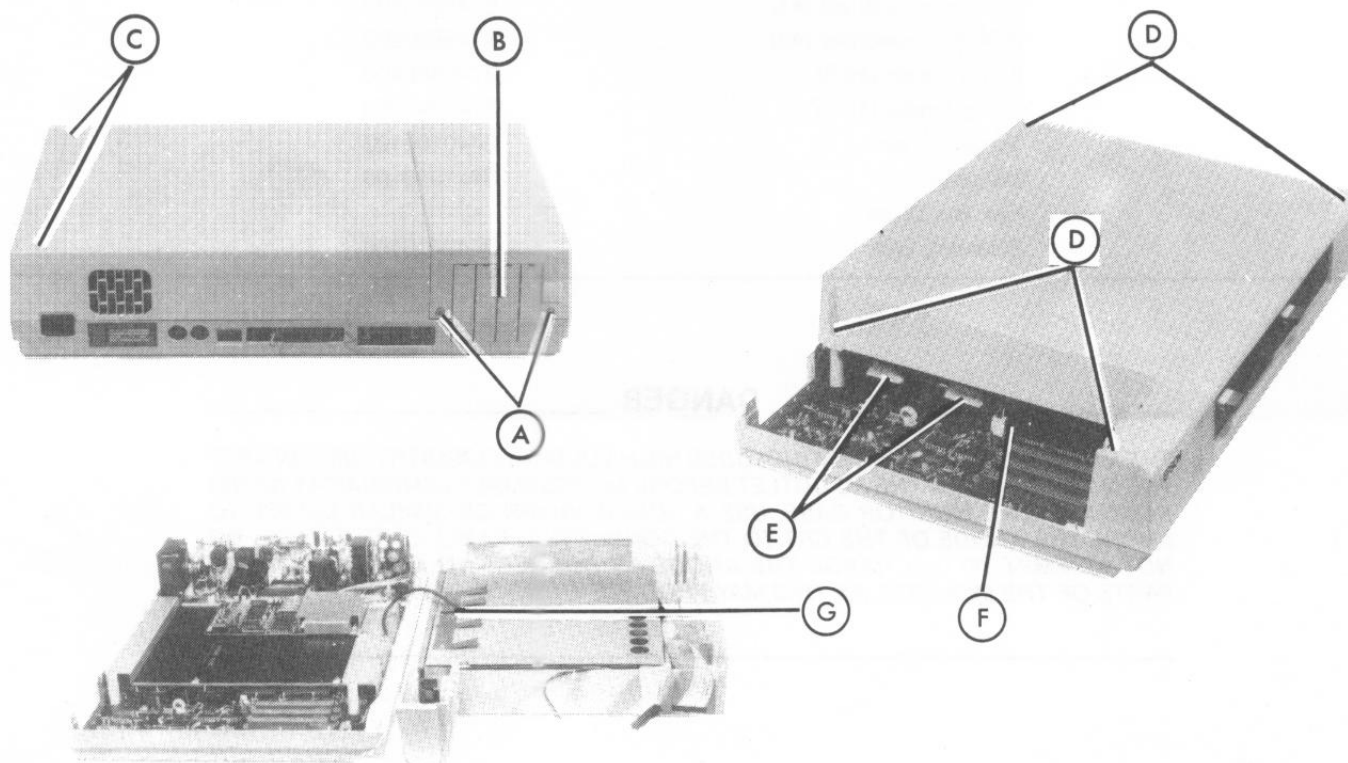

FIGURE 4-1. UPPER CASE REMOVAL/REPLACEMENT
4.2.1 Option Cover and Upper Case Removal (Figure 4-1)
4.2.2 Option Cover and Upper Case Replacement (Figure 4-1)